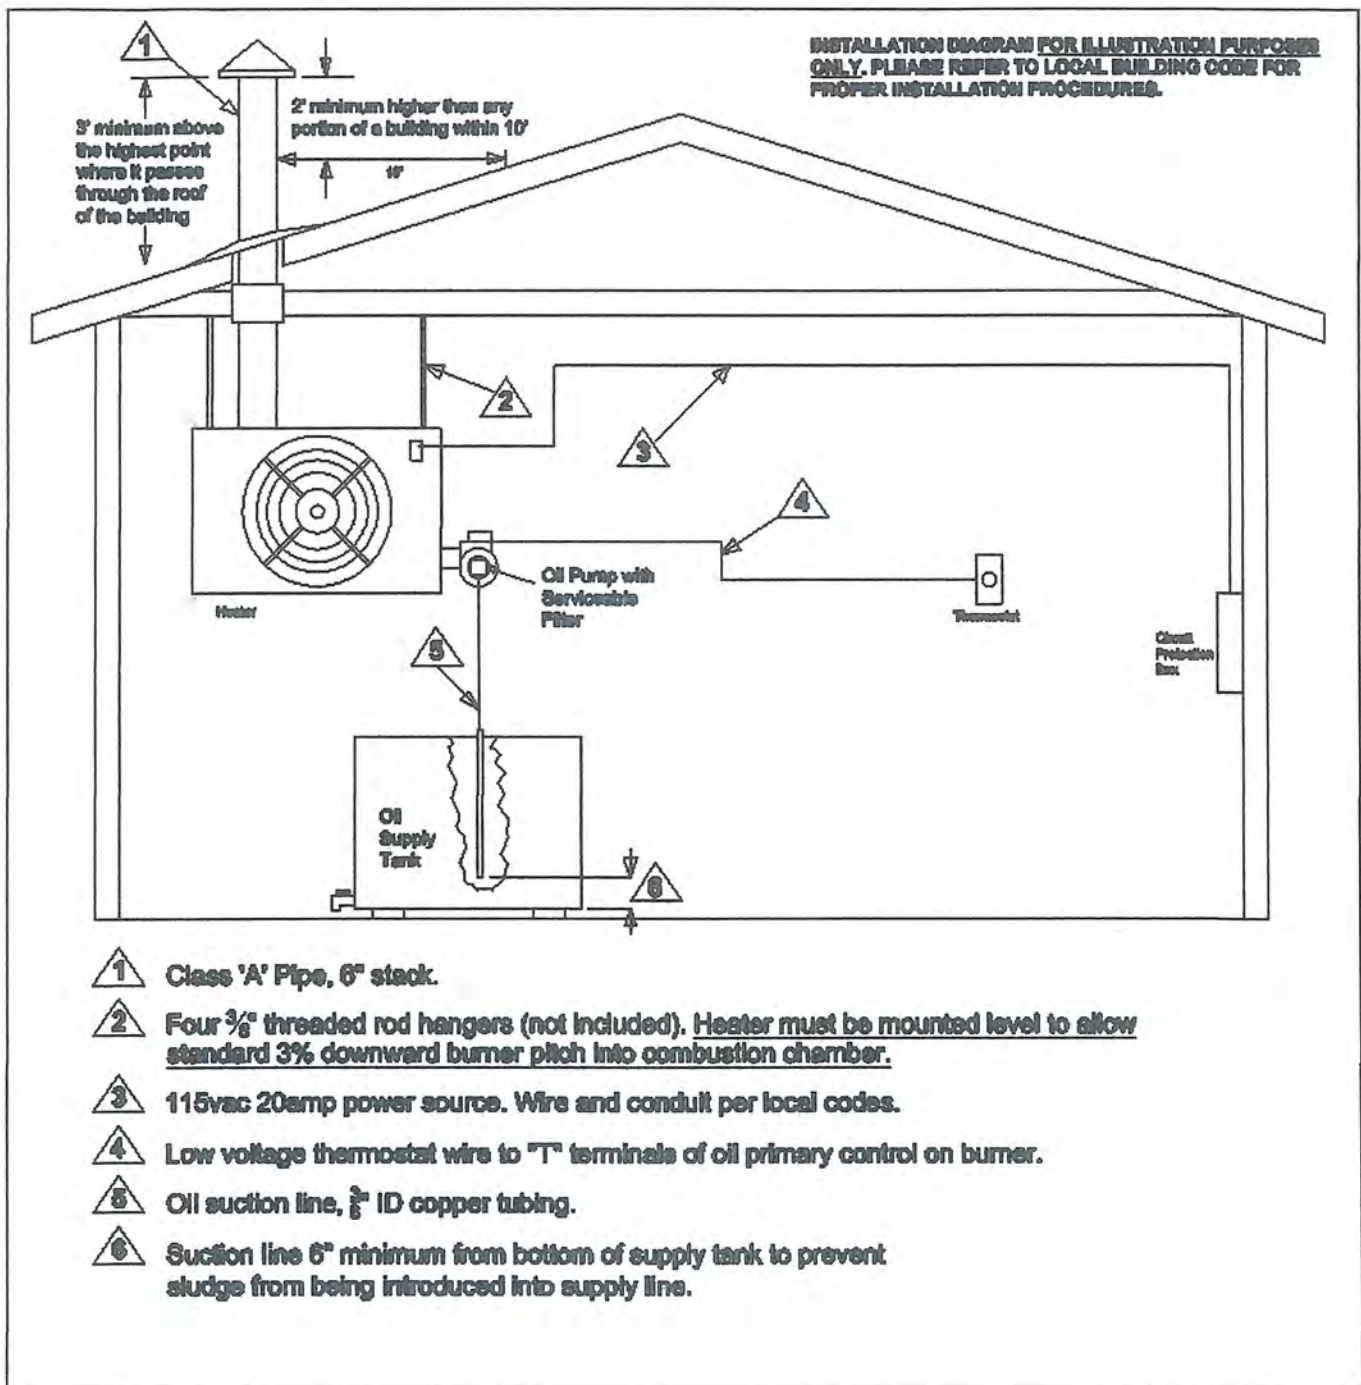

Figure 1 - Installation Diagram
- 4 **The fuel supply pump included with heater is to be mounted at tank level or below** (figure 1). This pump turns slowly requiring a number of minutes to accomplish purging ALL air, if bubbles, skips, even slight pulsations in the oil flow from pumps bleeder port is unacceptable and must be removed assuring proper oil flow to heater. Otherwise, the flame sensor will not see enough flame and heater will lockout. **NOTE: PUMP ASSEMBLY MUST BE MOUNTED HORIZONTAL.**
5. Connect  $3/8$ " oil supply line from the supply tank through the filter (figure 1) to the pump inlet located same side as bleeder port (figure 6). Continue oil supply line from pump outlet to bulk head fitting secured to cabinet at left side of burner assembly (bulk head fitting has fuel flex hose connecting it to burner).